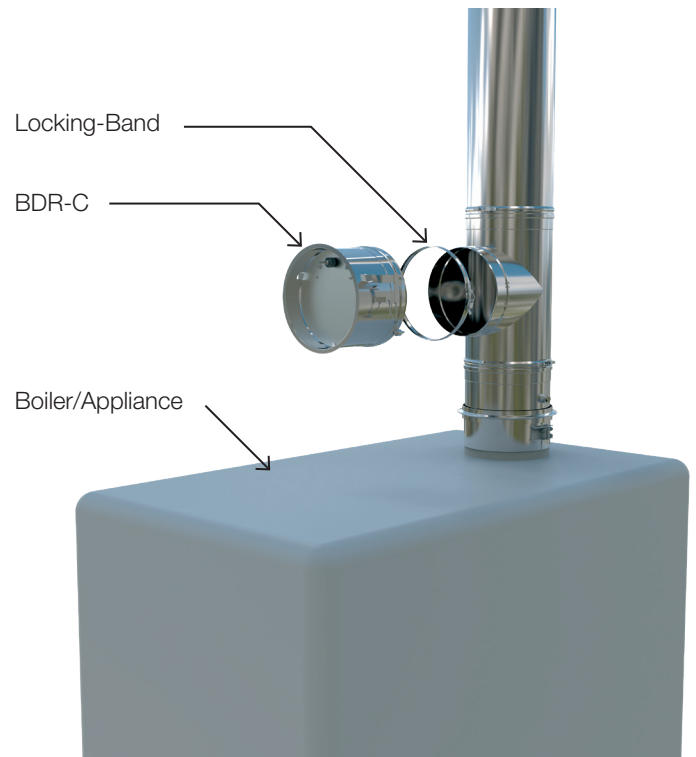

Fig 3-6: BDR-C Installation
5. With the joint assembled, locate the Locking Band around the joint as detailed in Fig. 3-6. The Locking Band must be installed so that the toggle is only closed from left to right.